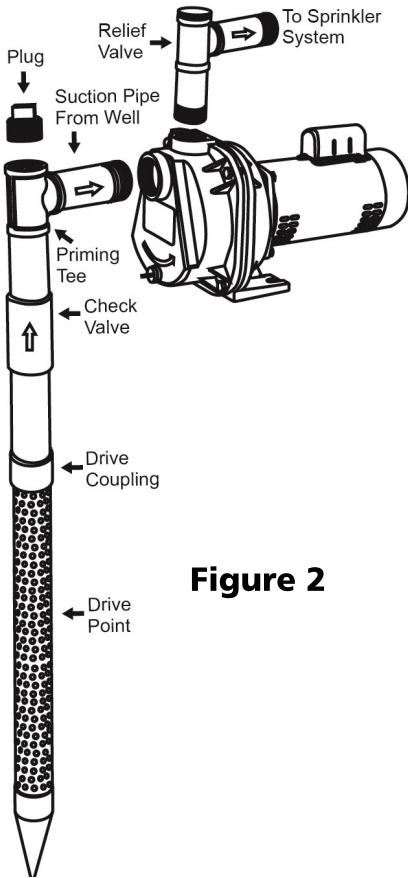

Figure 2
3. Install a priming tee with a plug on the suction pipe from the water source as shown in Figure 2. An inline check valve should also be installed on the suction line going to the pump. Install a union or other fitting that will allow the pump to be easily disassembled from the piping for easy servicing. **Make sure teflon tape or pipe joint compound is used on all joints.**